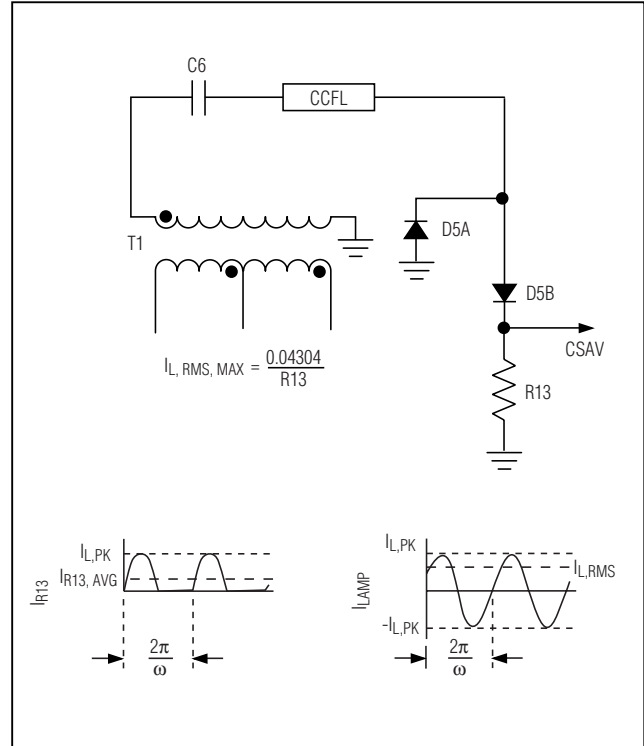
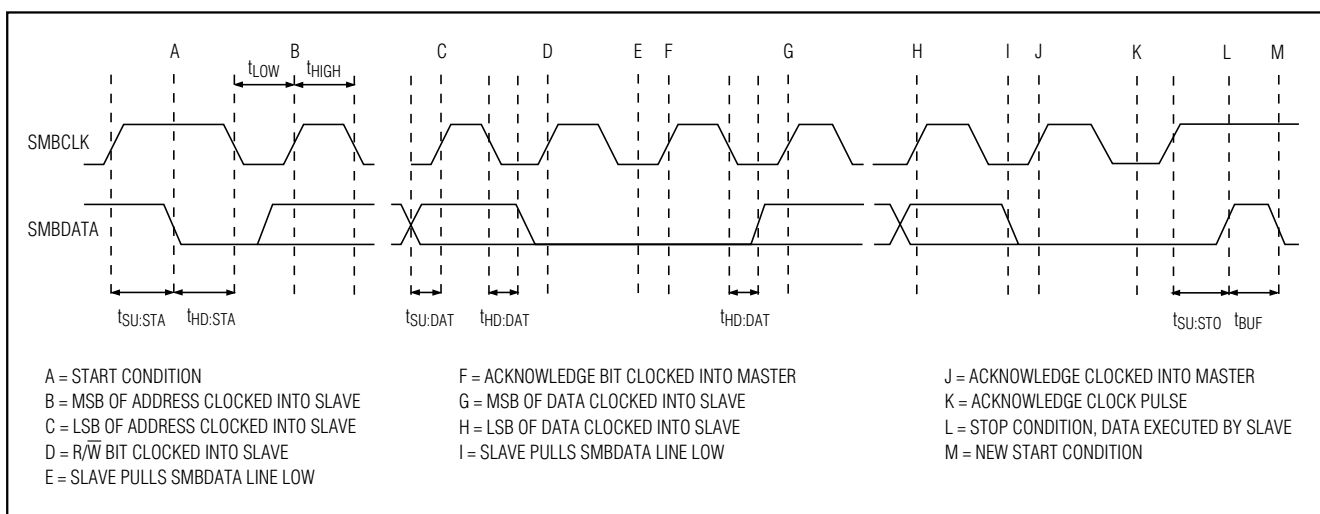

Figure 10. Current-Sense Waveforms
Figure 12. SMBus Write Timing
The MAX1739/MAX1839 regulate the average current through the CCFL. The current is sensed through the sense resistor (R13) at CSAV. The voltage at CSAV is the half-wave rectified representation of the current through the lamp (Figure 10). The MAX1739/MAX1839 regulate the average voltage at CSAV ($I_{R13, AVG} \times R13$) and are controlled by either the analog interface or the SMBus interface. To set the maximum lamp current, determine R13 as follows:
Communication starts with the master signaling the beginning of a transmission with a START condition, which is a high-to-low transition on CRF/SDA while CTL/SCL is high. When the master has finished communicating with the slave, the master issues a STOP condition (P), which is a low-to-high transition on CRF/SDA while CTL/SCL is high (Figures 10, 11). The bus is then free for another transmission. Figures 12 and 13 show the timing diagram for signals on the 2-wire interface. The address byte, command byte, and data byte are transmitted between the START and STOP conditions. The CRF/SDA state is allowed to change only while CTL/SCL is low, except for the